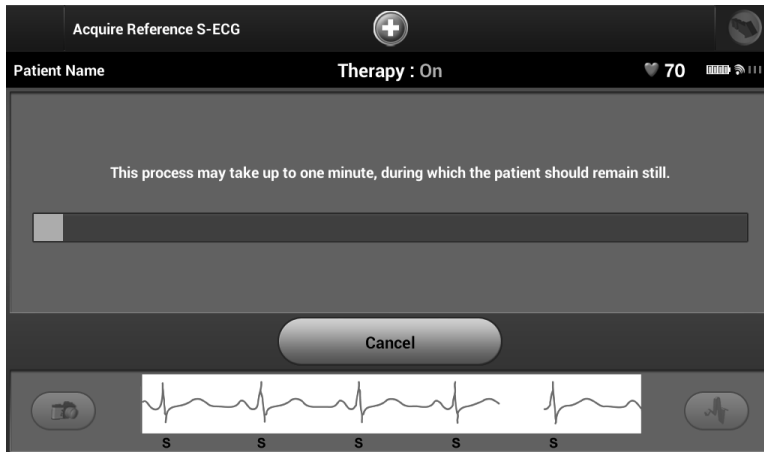

Figure 43: *The patient should remain still while the Reference S-ECG is acquired*
2. Select Continue to acquire a Reference S-ECG. The programmer will begin acquiring the Reference S-ECG. A message will appear requesting that the patient remain still (Figure 43). The reference S-ECG QRS template is recorded and stored in the SQ-RX device.